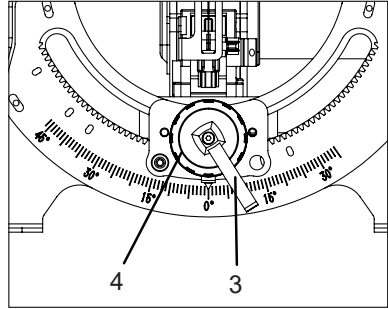

FIGURE 3
2. Check if the pointer is on the 0 scale. If not, first Loosen the table level lock handle (Fig. 3, 3) and turn the table level knob (4) to bevel the table until it is approximately at a right angle to the blade.